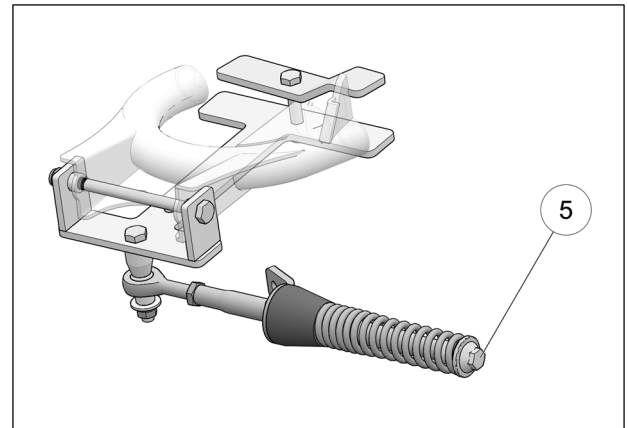

Fig. 13
11. Verify that spring assembly bolt (5) is tightened to the recommended torque specification:  $75 \text{ N}\cdot\text{m}$  [ $55 \text{ lb}\cdot\text{ft}$ ]. Refer to Fig. 13